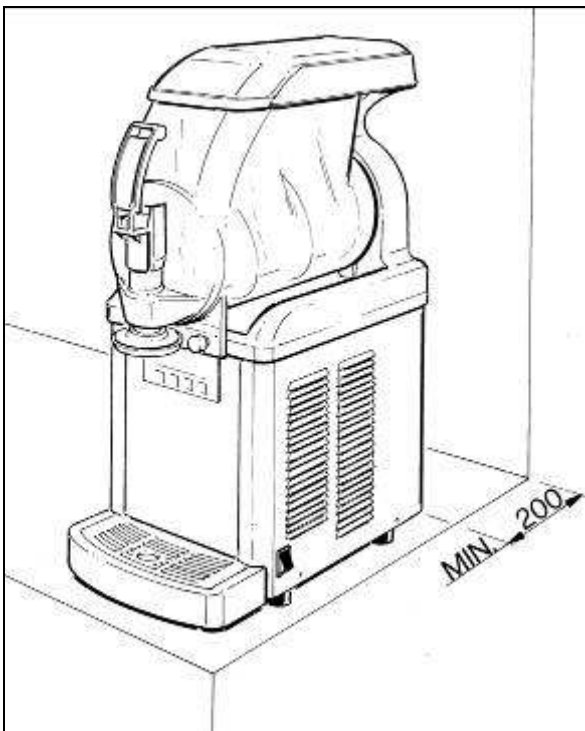

Fig. 2
- b) Rest the machine on a sturdy, flat surface making sure it is well ventilated by leaving a gap of 8 inches around it and do not install it near heat sources (fig.2); **we recommend you to maintain a room temperature between 75 and 90°F.**